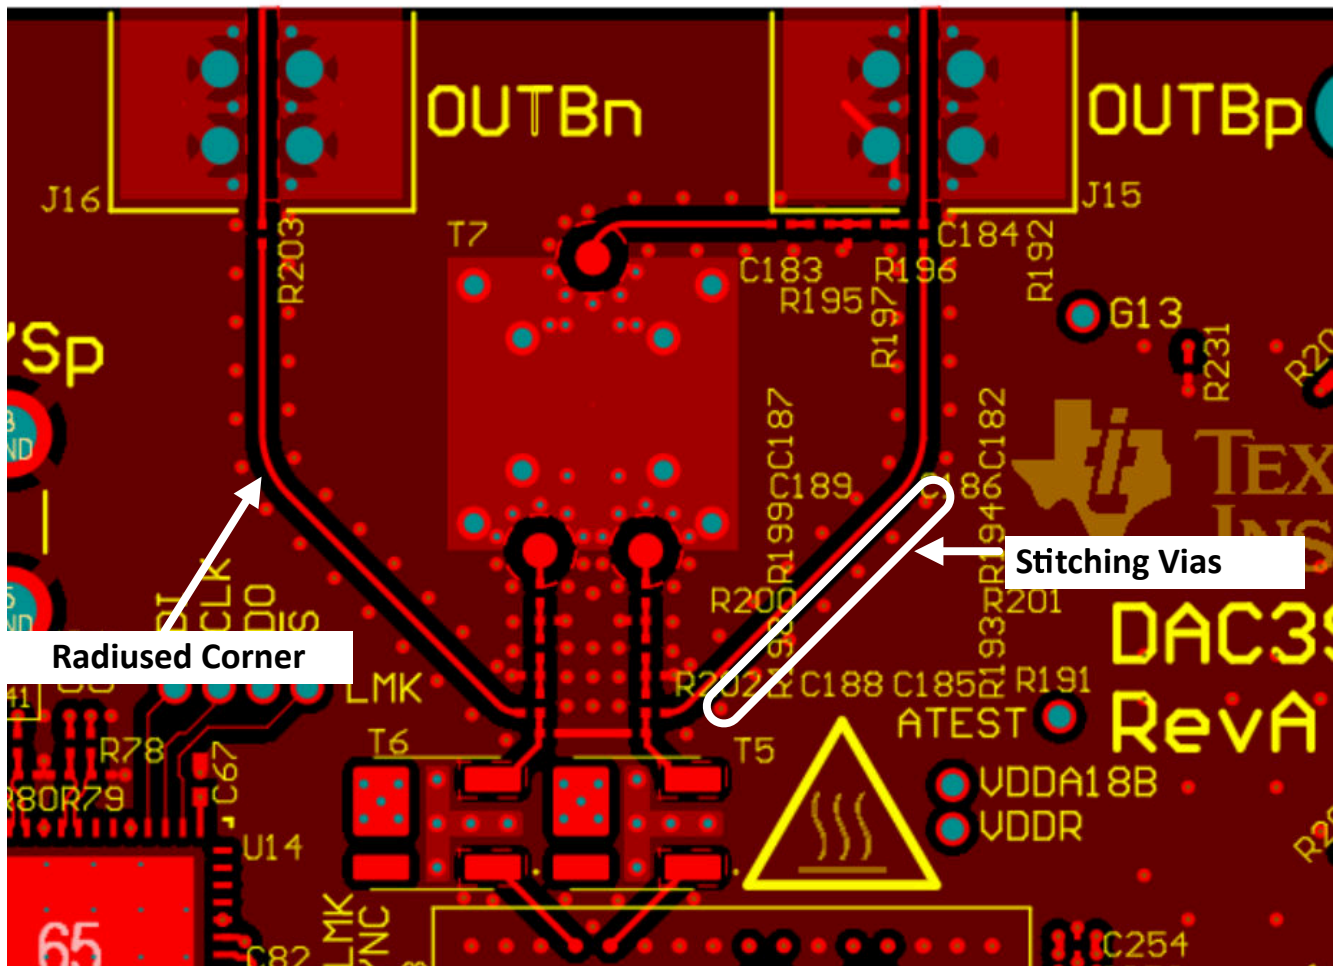

図 8-23. Radius Corner and Stitch Vias next to High_Speed Signal Trace
4. Use smoothly radiused corners and avoid 45- or 90-degree bends to reduce impedance mismatches on all high-speed inputs/outputs for both analog and digital signal traces. See Figure 8-23 as an example.